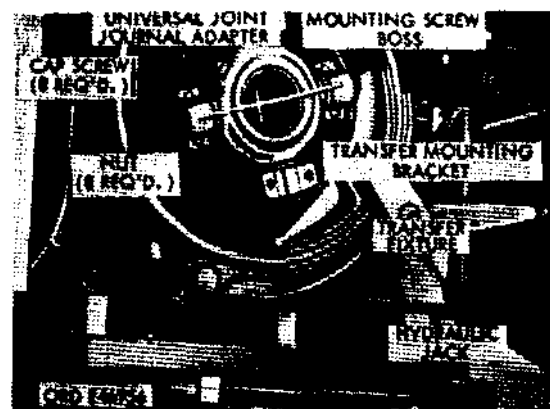
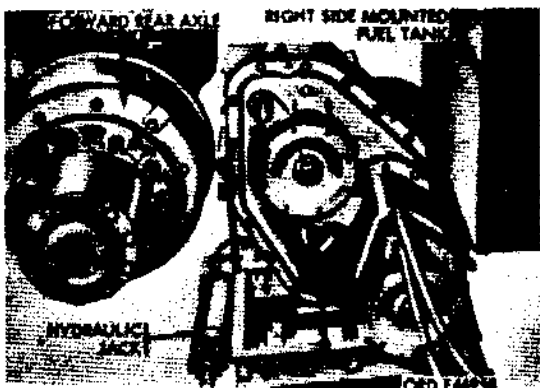

Figure 197. Supporting transfer with hydraulic jack
Figure 199. Pulling transfer from under right side of truck
l. Position hydraulic jack with transfer fixture under transfer, and raise jack until weight of transfer is just supported by jack (fig. 197).
m. Remove three cap screws securing transfer to right mounting bracket (fig. 197), and remove four cap screws securing transfer to left mounting bracket.
o. Turn hydraulic jack until right side of transfer is parallel to forward rear axle (fig. 199), and pull jack and transfer from under right side of truck.
p. Remove eight nuts (fig. 197) and washers from cap screws securing universal-joint journal adapter to rear-output-shaft companion flange, and remove adapter from flange.
a. Position universal-joint journal adapter (fig. 197) on cap screws at rear-output-shaft companion flange, install eight nuts and washers on cap screws, and tighten nuts. With transfer supported in lowered position on hydraulic jack, push jack and transfer under right side of truck immediately forward of and parallel to forward rear axle (fig. 199).
b. Turn jack until front of transfer is toward front of truck, raise jack, and align mounting screw bosses (fig. 197) on left and right sides of transfer case with left and right transfer mounting brackets.